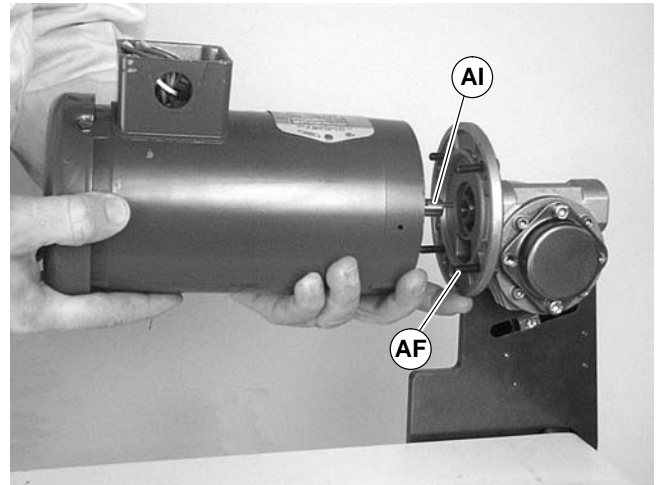

Figure 30
5. With key (AI of Figure 30) in keyway, slide motor and gear reducer together. Install screws (AF) and tighten.